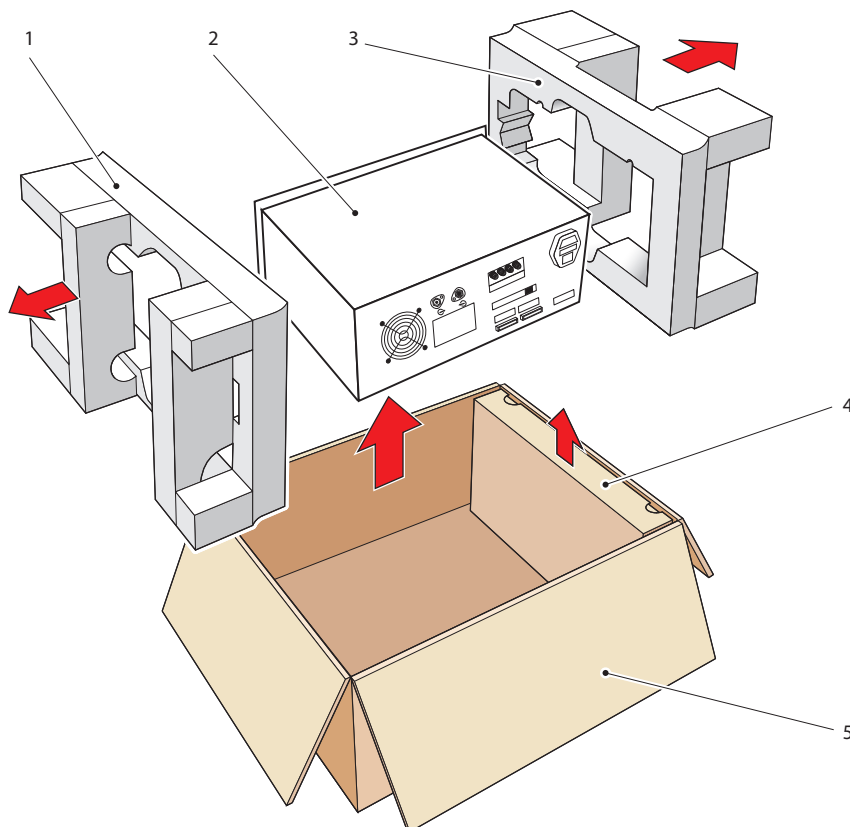

Figure 3 *S8000 Packing*
Open the box (5) and unpack carefully as follows (see *Figure 3*):
1. Remove the accessories box (4).
2. Lift out the instrument (2) together with its end packing pieces (1 & 3).